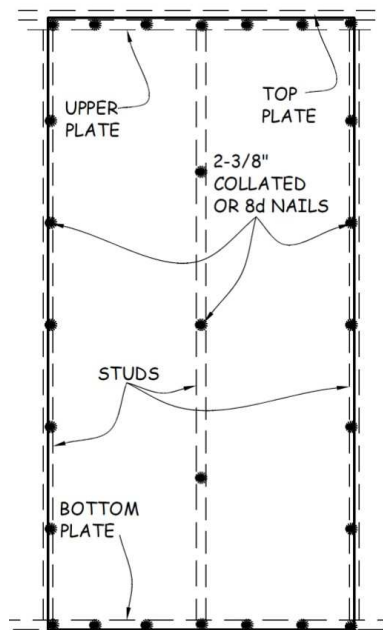

Figure 23-5. Garage OSB Nailing Pattern.
5. Starting at the zero corner, place a sheet of 4'x9'x $\frac{1}{2}$ " OSB on each end of a wall section, flush with bottom plate and overlapping $\frac{3}{4}$ " onto the stud 4' from the corner. Secure it to the studs with 8d or 2 $\frac{3}{8}$ " collated nails into each stud and the top and bottom plate using the nailing pattern shown in Figure 23-5.